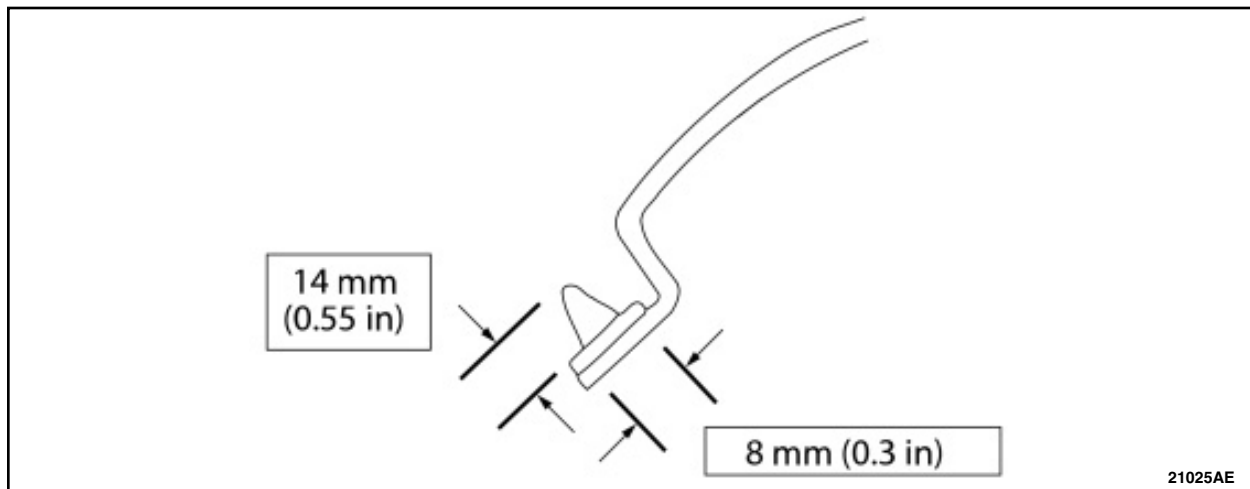

FIGURE 26
33. Apply a urethane adhesive bead. See Figure 26.